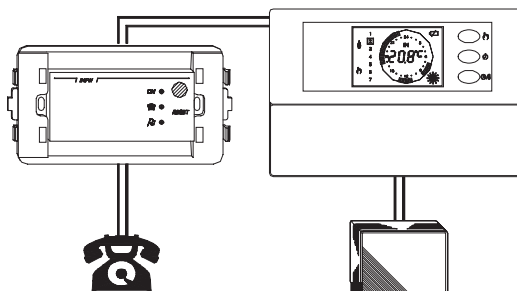

Fig. 9
- Remote telephone interface (Fig. 9), code: ACC PH INF W (junction box mount);